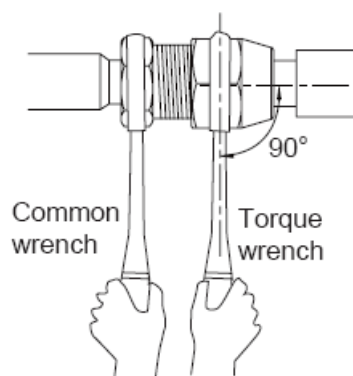

Fig. 14
- (3) Use torque wrench to twist on the flared nut tightly until the wrench gives out a click sound. (Hold the handle of wrench and make it at right angle to the pipe. as in Fig. 14